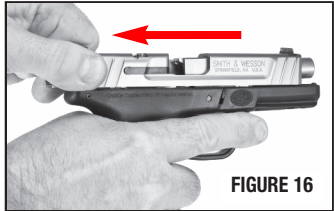

FIGURE 16
- Keep the muzzle still pointed in a safe direction, and keep your finger off the trigger and outside the trigger guard, grasp the serrated sides of the slide from the rear with the thumb and fingers, (FIGURE 16) and briskly draw the slide fully rearward in order to extract any cartridge from the barrel chamber and clear it from the pistol.